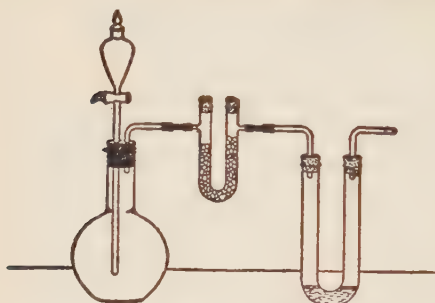

FIG. 23.
a. Fit up a 250 c.c. flask with a dropping-funnel and exit tube, and connect with a U-tube (Fig. 23). Render the apparatus air-tight and test it (?). Fill the U-tube with dry, broken glass or porcelain (why?), mixed with a little red phosphorus (why?).
a. Use the apparatus in Fig. 23. Place in the flask a mixture of finely powdered iodine (20 g.) and red phosphorus (1 g.) intimately mixed in the mortar. Charge the U-tubes as in 51 a. Place a little water in the dropping-funnel, and allow the water to drop very slowly upon them (?). After the air has all been expelled, and the solution in the second U-tube has become sufficiently concentrated, remove the second U-tube. Test the issuing gas with moist air (?) and with ammonia (?) as in 51 a. Hold in the gas a piece of filter paper dipped in starch emulsion alone (?). Explain (?). Reserve the contents of the second U-tube for use in c.